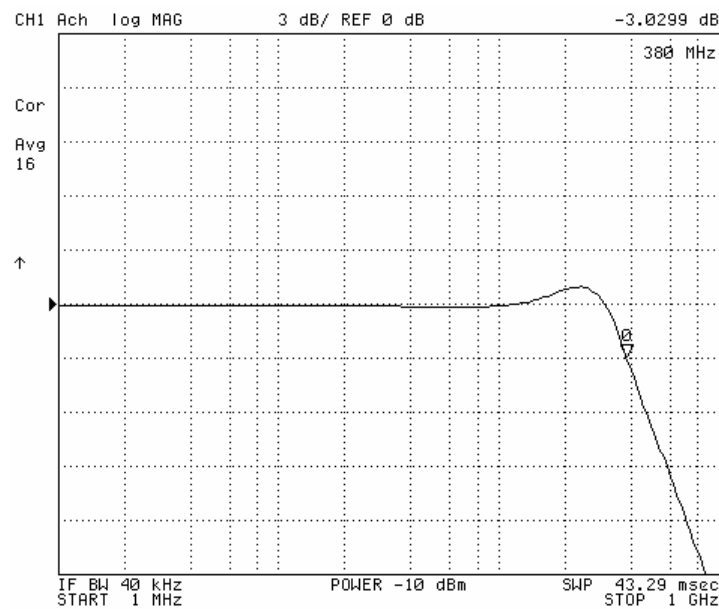

Figure 2. Typical Transmission Frequency Response
6. Connect the Network Analyzer (if used) to the appropriate channels to measure frequency response and crosstalk as desired. Figure 2 shows a typical transmission plot.